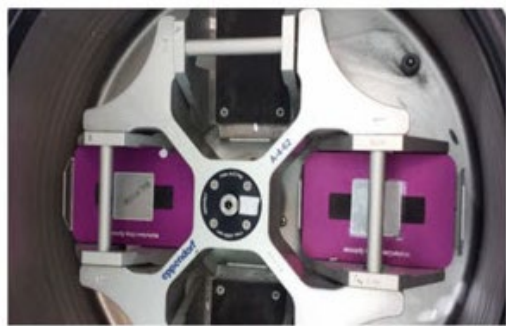

Figure 11. Centrifuge Chip Spinner.
17. Place the sealed chip on a centrifuge spin plate and centrifuge the sealed chip at 300g for 5 min at 22°C with full acceleration and full brake (Figure 11, below). If you have one chip, balance the centrifuge with the supplied Balance Chip or a blank chip. Proceed to the next protocol (Section V.C) once the centrifugation is complete.